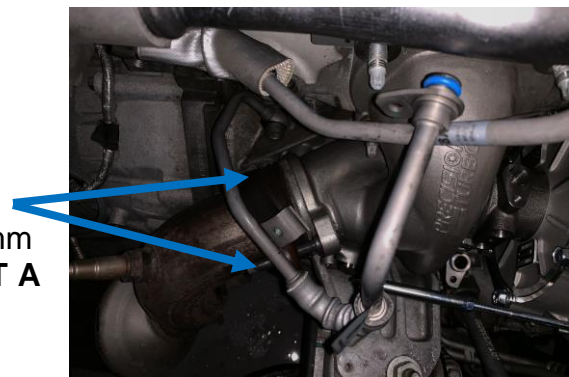

Fig. 20
3. Manually thread both new nuts into studs. Make sure that both sides are evenly torque. (use 15mm socket) **DO NOT FINAL TORQUE ONE NUT AT A TIME!** See Fig. 20 *Torque to 30 lb.ft (40 Nm)*